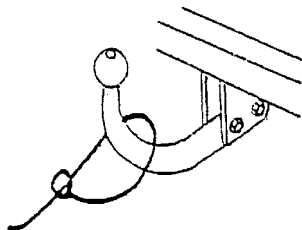

Fig. 3A
- Fixed ball: Loop the cable around the neck of the towball in a single loop only. See figure 3A and 3B, Page 16.